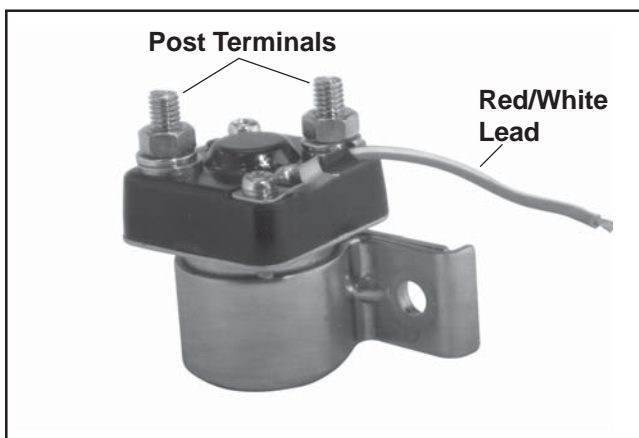

Figure 8-33. Solenoid Details.
5. Inertia Drive Starters: Disconnect the leads from the starter solenoid and remove it from the starter for testing. See Figure 8-33 on page 8.25. <ol style="list-style-type: none"> a. Set an ohmmeter on the Rx1 scale and zero the meter. Connect one ohmmeter lead to the terminal of the red/white lead from the solenoid. Connect the other ohmmeter lead to the solenoid mounting bracket. b. With the ohmmeter still on the Rx1 scale, connect the leads to the two large post terminals. c. Leave the ohmmeter leads connected to the large terminals. Connect a jumper lead from the positive terminal of the battery to the terminal of the red/white solenoid lead. Connect another jumper lead from the negative terminal of the battery to the solenoid mounting bracket. <p>Solenoid Shift Starters: Perform the solenoid tests on page 8.24.</p>	5. <ol style="list-style-type: none"> a. The resistance of the energizing coil should be at least 3.4 ohms. If the meter reading is less than 3.4 ohms, or an open circuit is indicated (infinity ohms), the solenoid is faulty and must be replaced. b. The meter should indicate an open circuit (infinity ohms, no continuity). c. When the circuit is completed, applying 12 volts to the energizing coil, an audible click should be heard as the solenoid engages, and the ohmmeter should then indicate continuity between the large terminals. If the results are other than indicated, replace the solenoid.